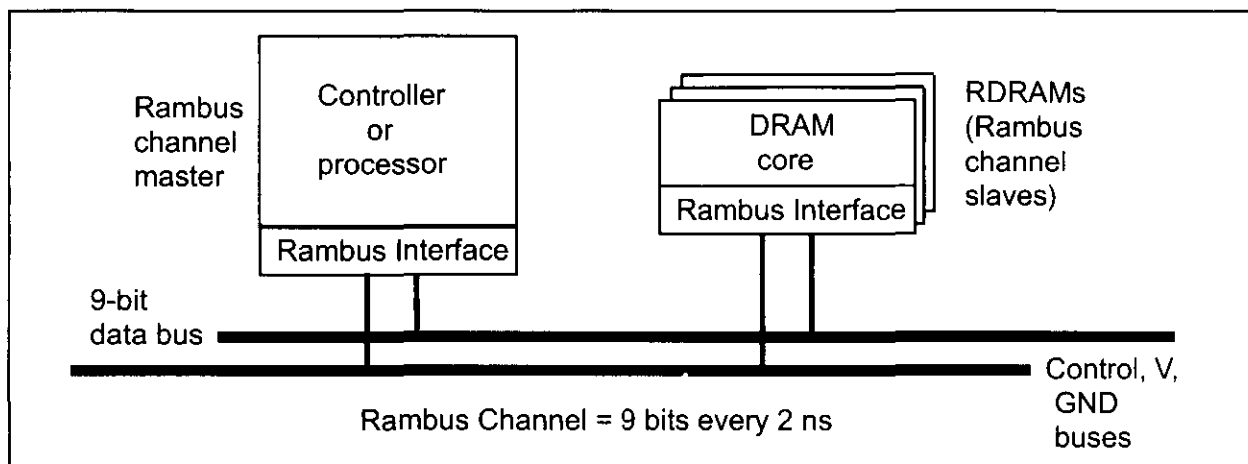

Figure 22-13. A Rambus-Based System
The heart of Rambus technology is a proprietary interface for chip-to-chip bus connection. This high-speed bus technology is composed of three sections: (1) a Rambus interface, (2) a Rambus channel, and (3) Rambus DRAM. The Rambus interface standard must be incorporated into both DRAM and the CPU. While many DRAM makers are introducing DRAM with a Rambus interface (called RDRAM), not every microprocessor is equipped with a Rambus interface. However, Intel has indicated that it will equip future generations of the x86 with a Rambus interface. However, if a given microprocessor is not equipped with a Rambus interface, one can design a memory controller with the Rambus interface and place it between the CPU and RDRAM. Such a controller is referred to as a *Rambus channel master* and the RDRAM is called a *Rambus channel slave*. See Figures 22-13 and 22-14.